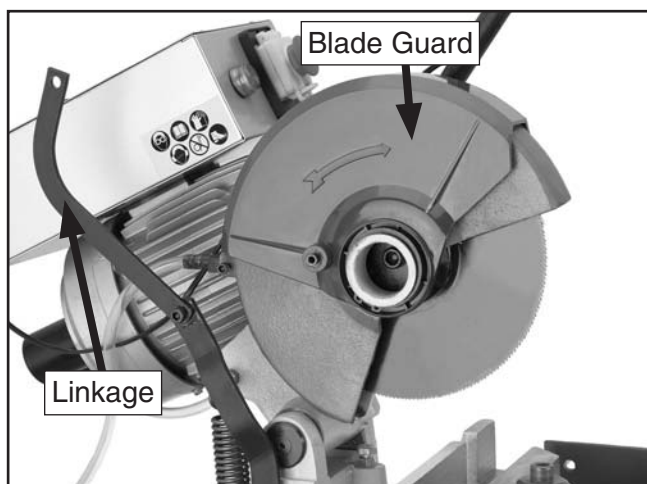

Figure 43. Exposing blade.
3. Rotate the blade guard and linkage out of the way, as shown in **Figure 43**.
4. Remove the arbor cap screw. It has left-hand threads and loosens when turned clockwise (see **Figure 43**).